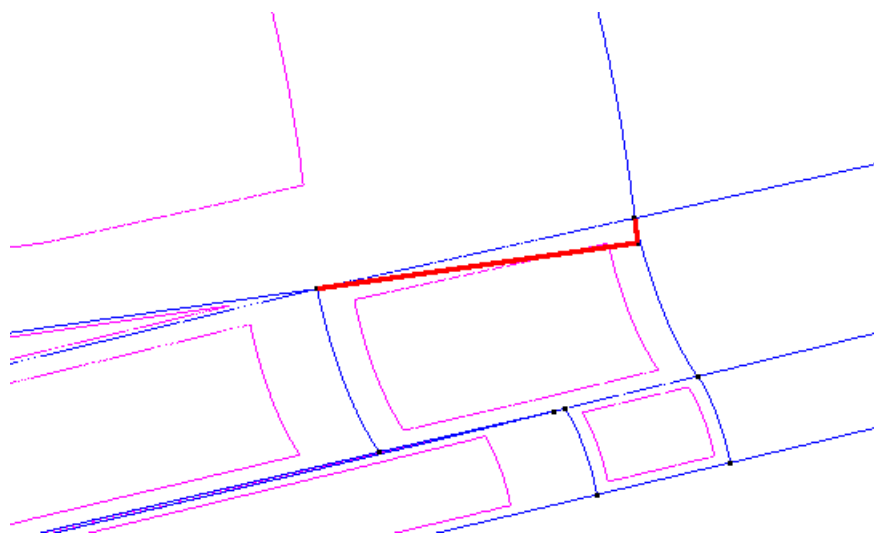

Figure 27. Lines and point that no longer belong to any surface.
- 14 . Use **Geometry->Delete->Lines** and **Geometry->Delete->Points** to select the lines and points that belong to the surface that has been trimmed and which no longer belong to any surface (Figure 27).